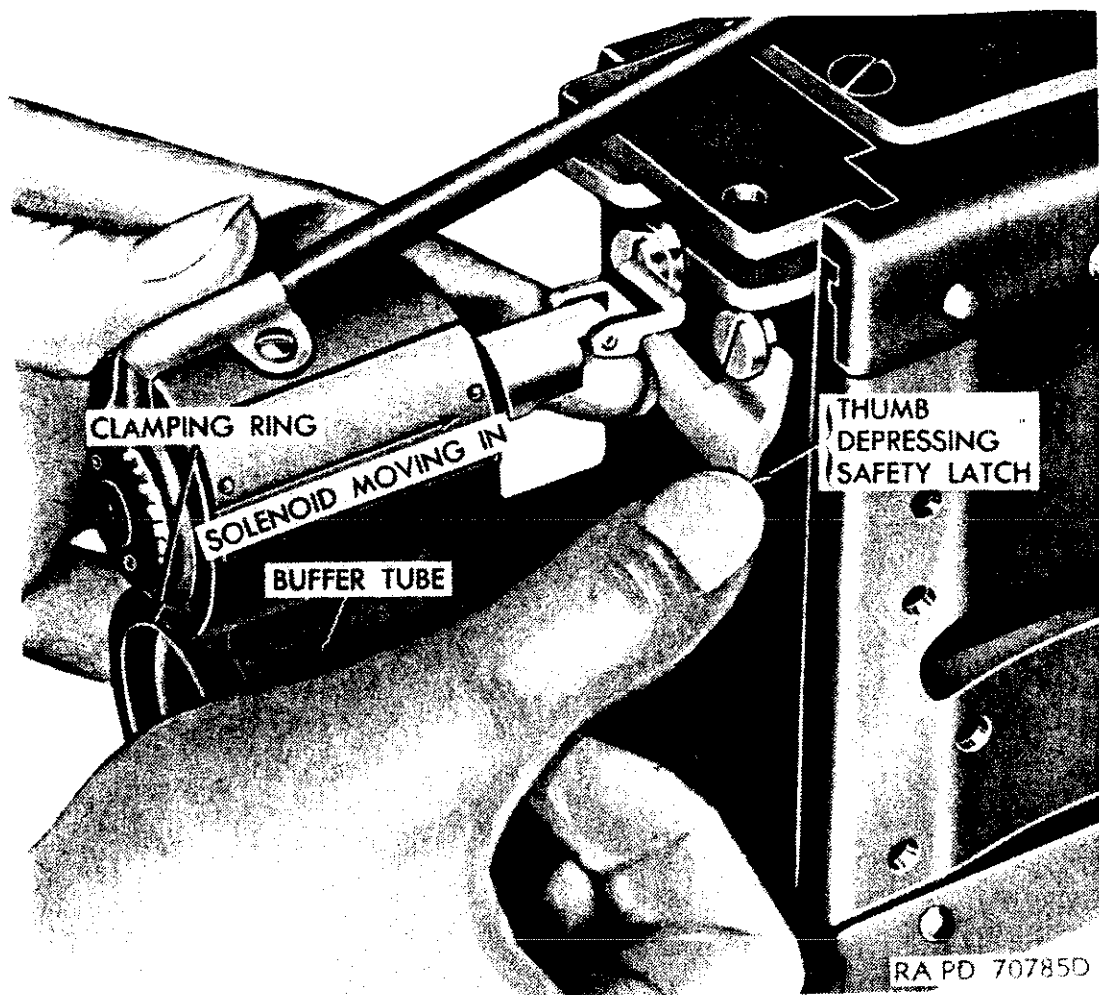

Figure 75. Installing solenoid.
- (1) Remove the pin and the back plate filler piece from the window at the top of the back plate (FM 23-65).
- (2) Position the safety latch (fig. 75) on the back plate and secure with special No. 10-32 screws in such a manner that the spring bears on the back plate buffer tube. Pass the locking wire through the holes in the head of each of the two screws.
- (3) Slide the solenoid clamping rings over the back plate buffer tube. Depress the safety latch and raise the trigger bar lifter with the finger. Slide the solenoid forward until the shoulder on the case (which is immediately behind the trigger bar lifter) comes in contact with the bottom edge of the window on the back plate, and the safety latch enters the slot in the case when released.
- (4) With the case approximately in the center of the window, tighten the two bolts on the clamping rings. Pass the locking wire through the hole in the head of each bolt.
- (5) Insert the cable pan in the solenoid clip.
- (6) Plug the solenoid lead into the solenoid lead wire connector on the trunnion sector.